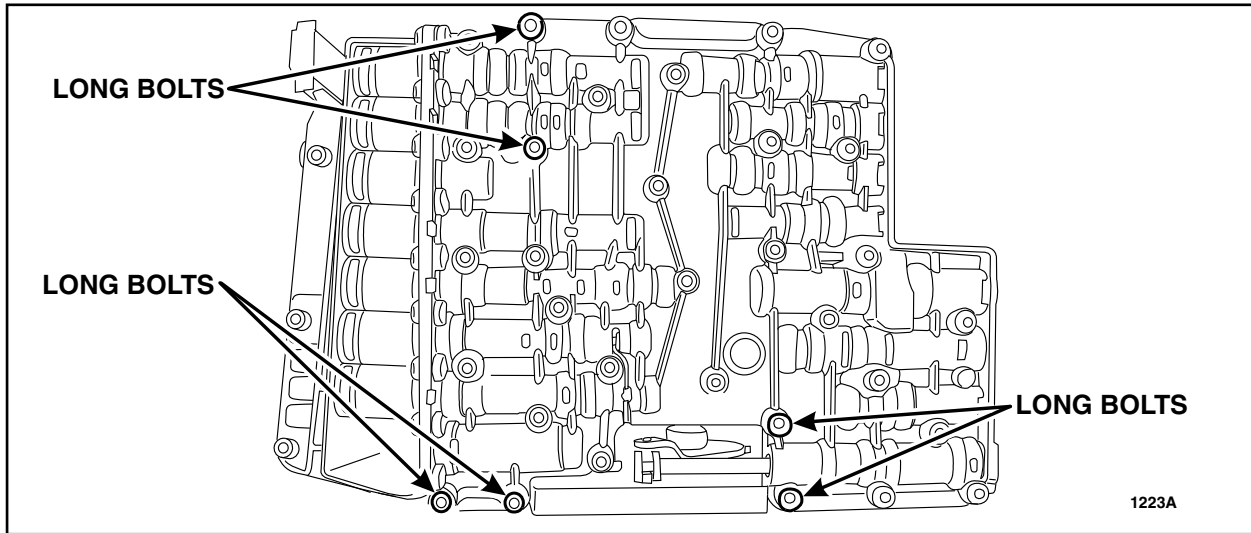

FIGURE 4
6. Install the six long bolts to the *new* molded leadframe. See Figure 4.